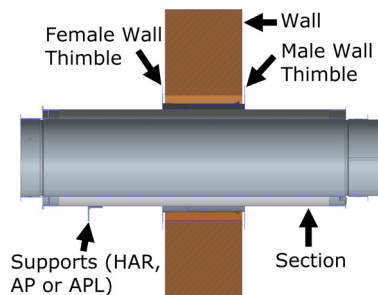

Figure 116: Supports for Chimney passing through a Wall
Chimney that penetrate wall have to be supported at least on one side of the wall, supporting the section that penetrates through the wall. It can either be supported by bracing a Half angle Ring (HAR), Anchor Plate (AP), or Anchor Plate Length (APL) See Figure 116.